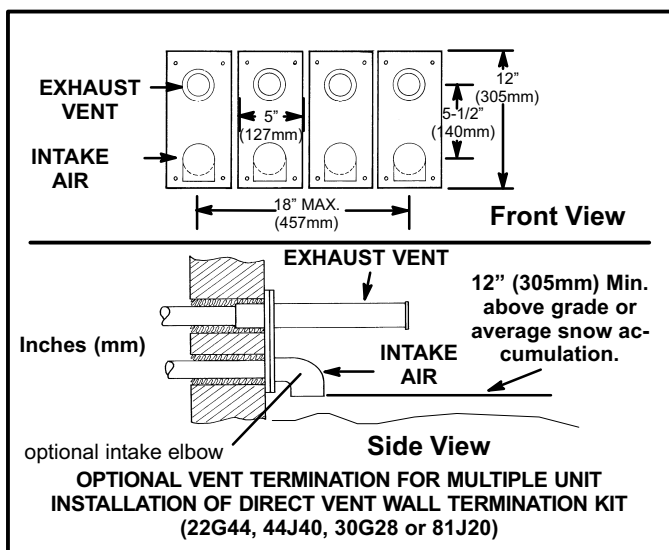

FIGURE 33
- Based on the recommendation of the manufacturer, a multiple furnace installation may use a group of up to four terminations assembled together horizontally, as shown in figure 33.